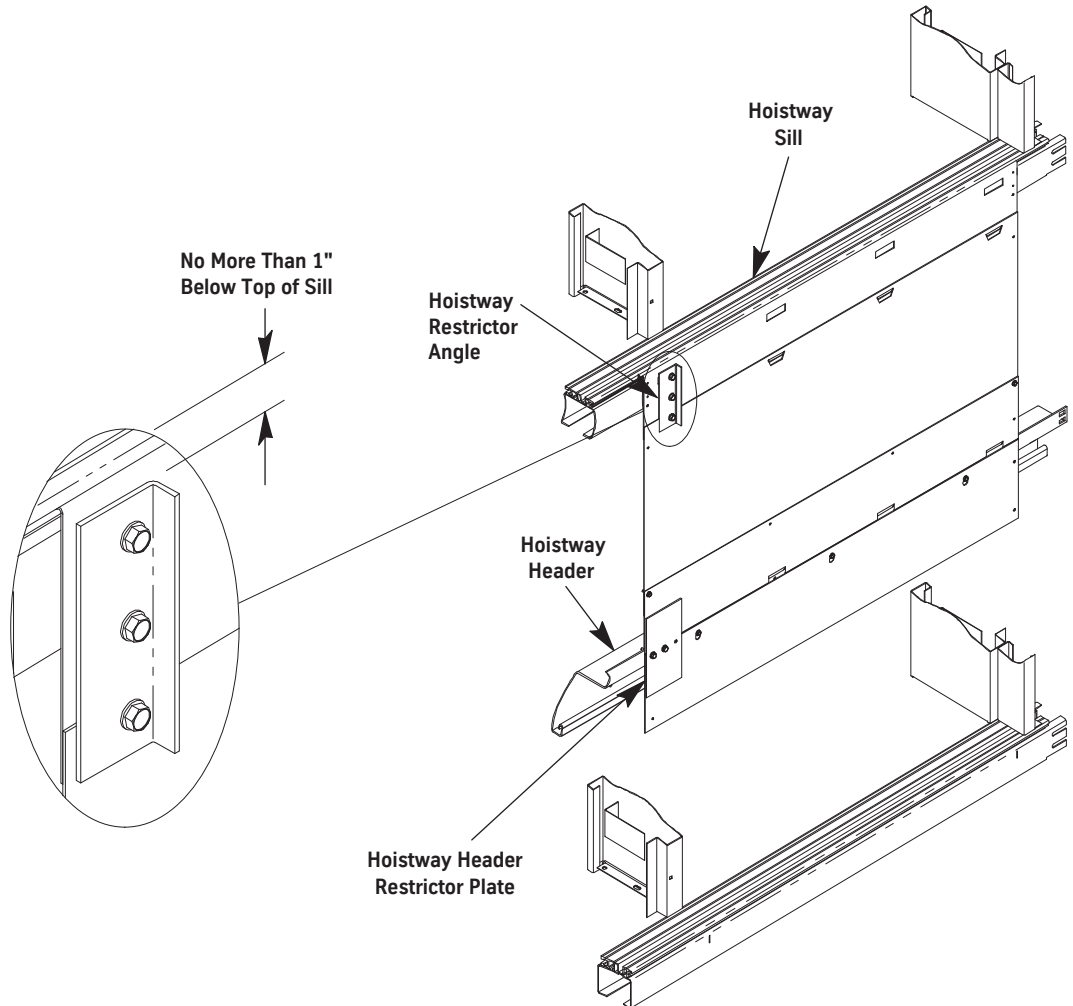

Figure 25 - Hoistway Restrictor Angle Positions
1. Mark the position of the hoistway restrictor angle. See Figure 25.